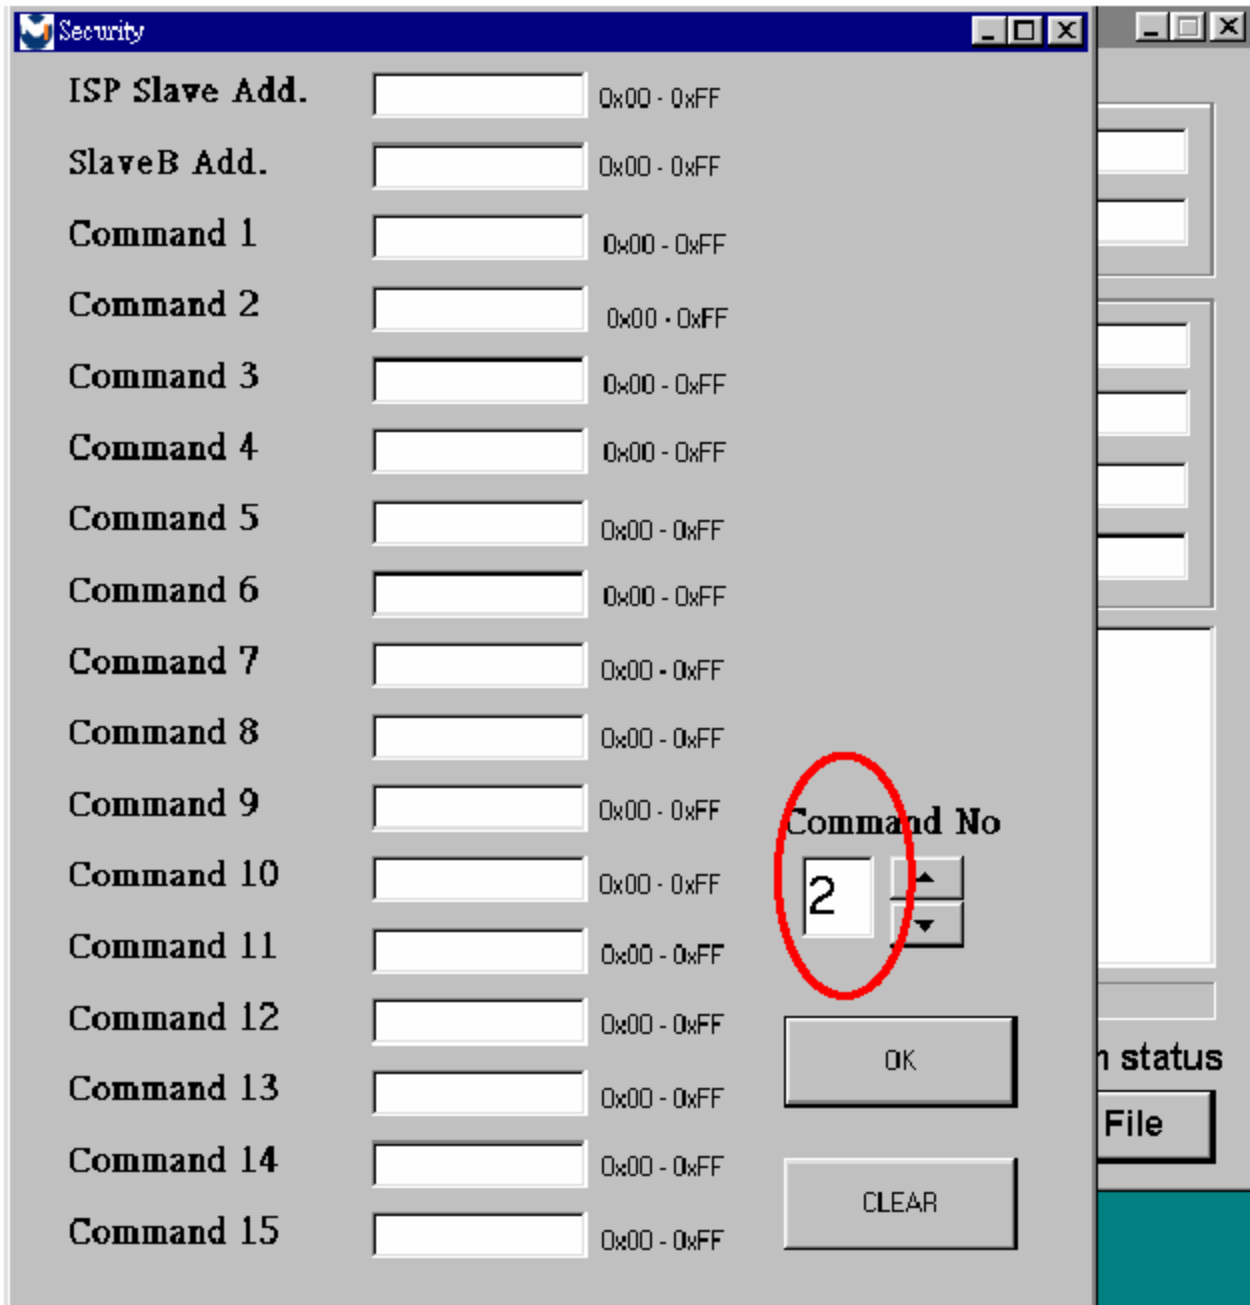

Fig 3.5
3.5 At least 2 Command No of security code, see Fig 3.5, and different security code between hardware ISP and software ISP. The security code of software ISP is set by user while coding, but the security code of hardware ISP is set by Myson Century.